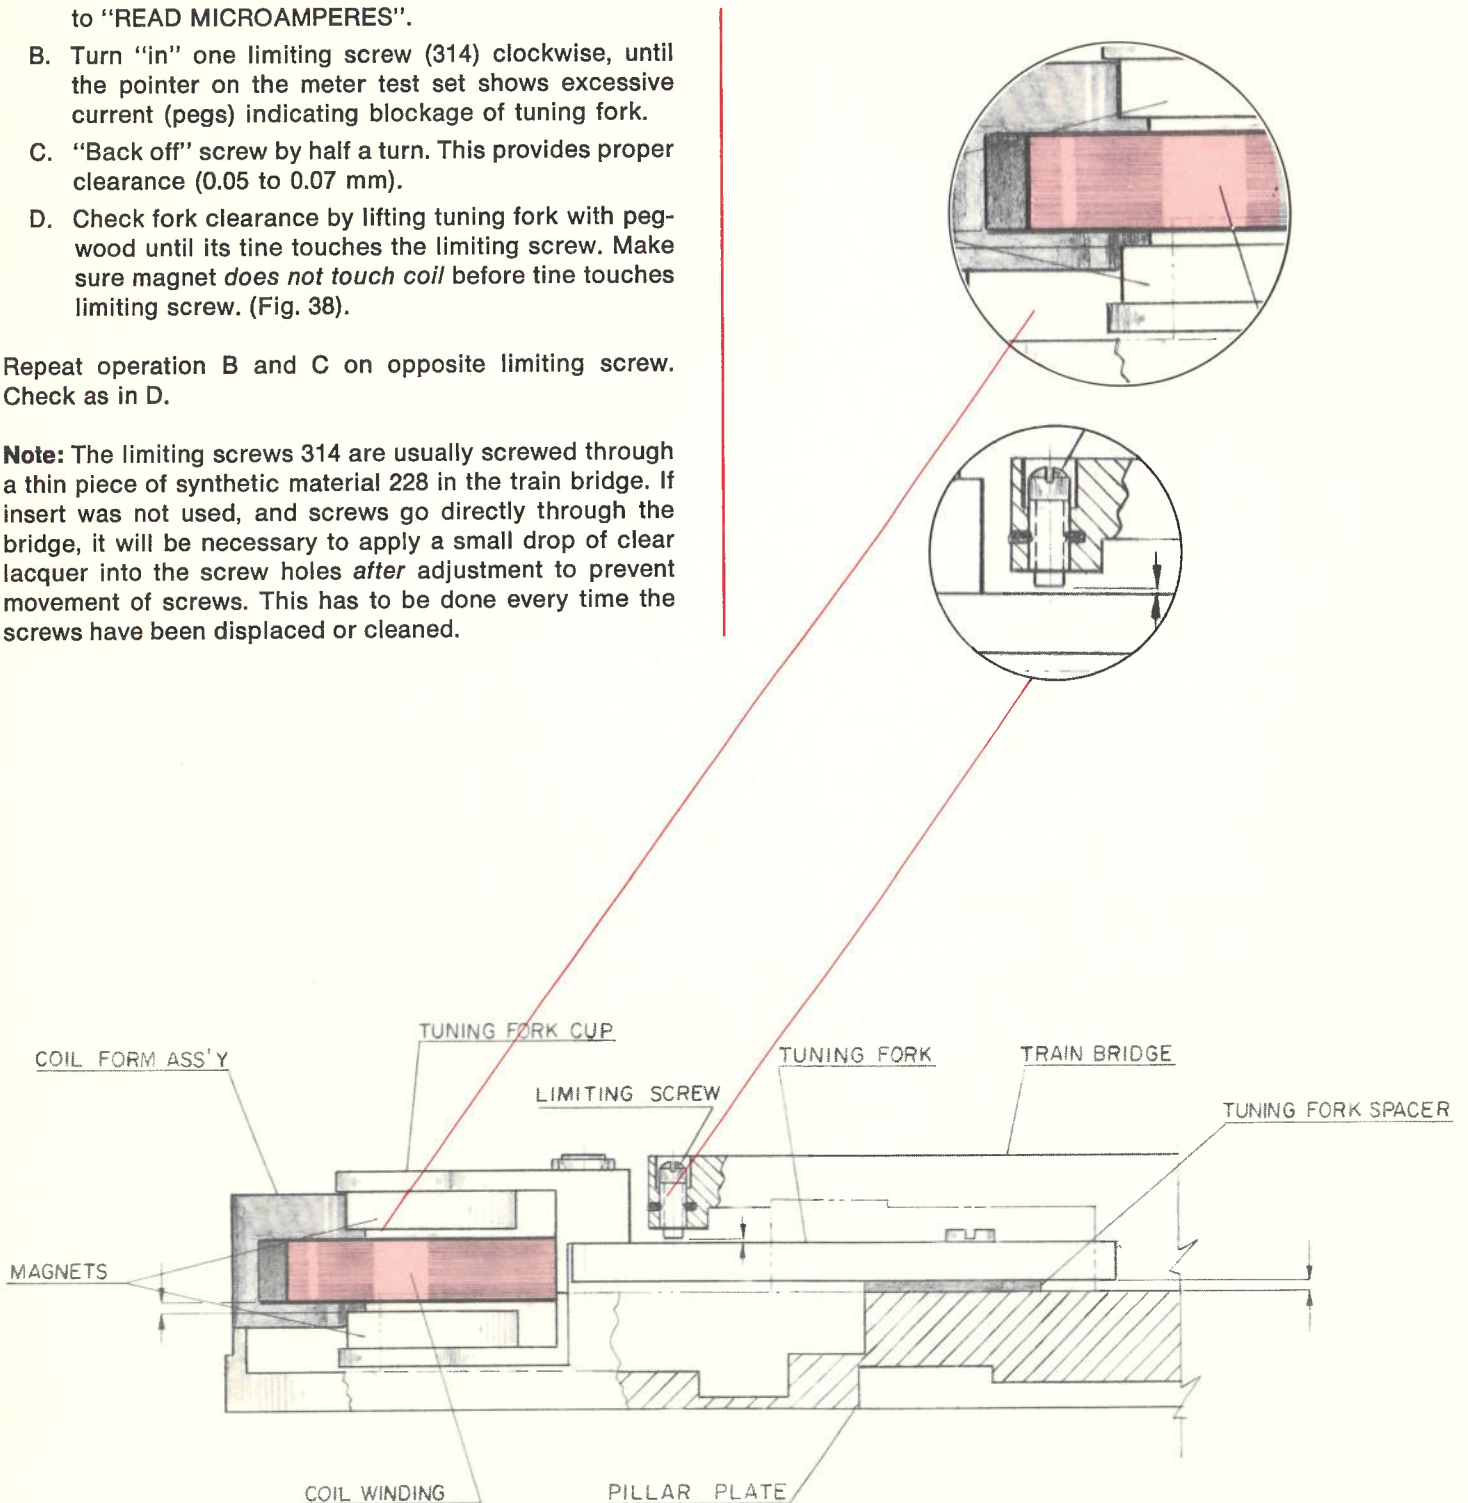

Fig. 38
- B. Turn "in" one limiting screw (314) clockwise, until the pointer on the meter test set shows excessive current (pegs) indicating blockage of tuning fork.
- D. Check fork clearance by lifting tuning fork with peg-wood until its tine touches the limiting screw. Make sure magnet *does not touch coil* before tine touches limiting screw. (Fig. 38).